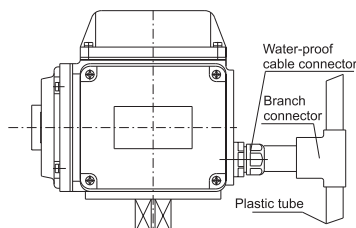
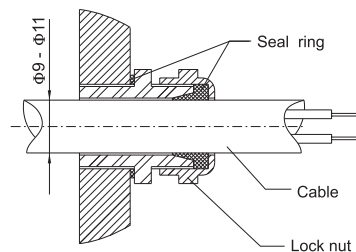

Fig.1
Fig.2
- Refer to Fig.1 when installing pipes.
- ① The outer diameter of the pipe shall be  $\Phi 9\sim \Phi 11$ .
- ② Waterproof shall be fully adopted.
- ③ The electric actuator shall be located higher than the pipe, so water in the pipe will not flow into the unit and the safety of the unit can be ensured.
- The outer diameter of the cable shall be  $\Phi 9\sim \Phi 11$ , refer to Fig. 2. No cable, which is not fit to the inner diameter of waterproof cable connector, is allowed to use. Otherwise, water may enter into the unit through the connector to damage the parts inside actuator.